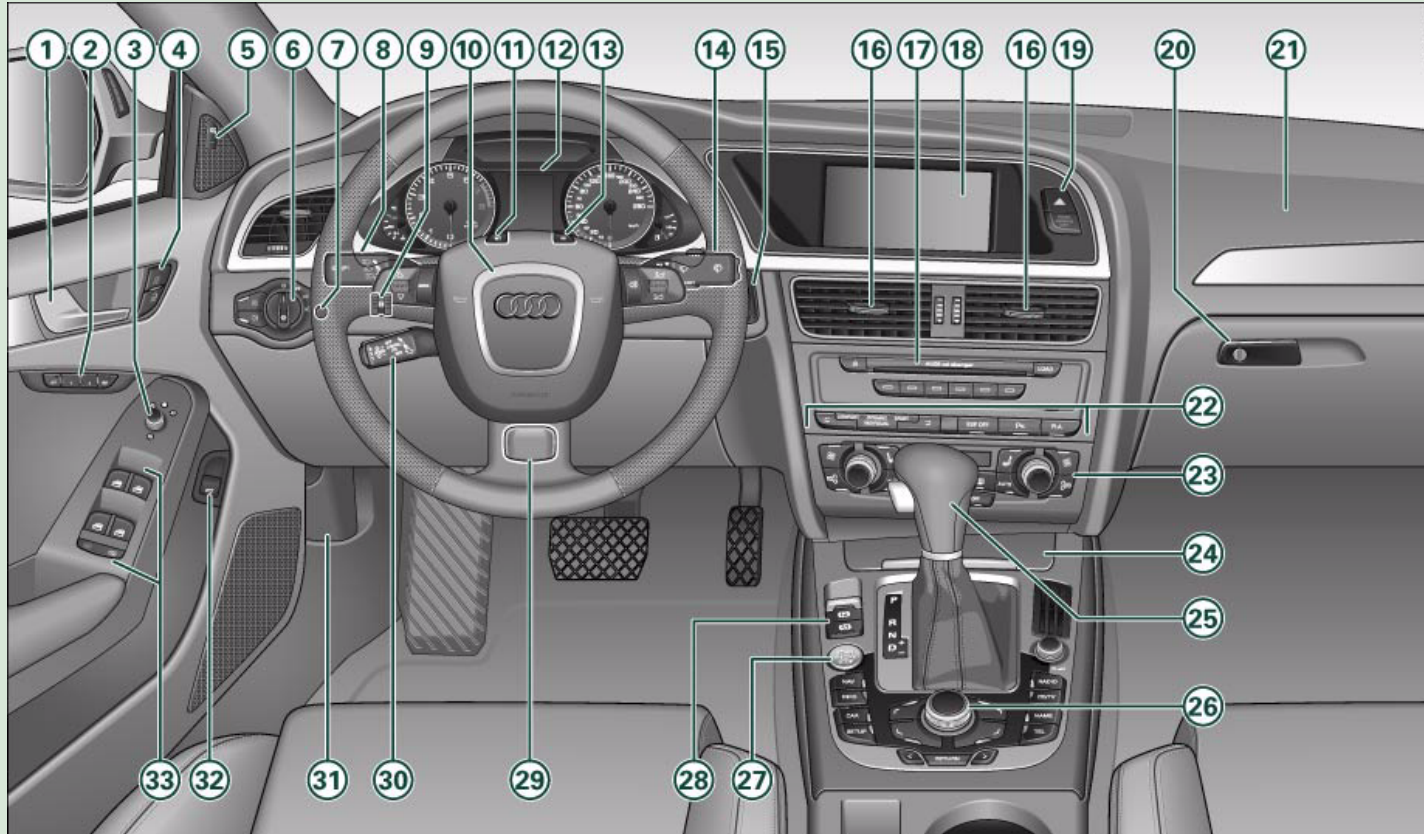

Fig. 1 Some of the items of equipment listed in this section are only fitted on certain models or are optional extras.
- The arrangement of switches and controls on right-hand drive models\* may be slightly different from the layout shown in the illustration ⇒ *page 8*, fig. 1. However, the symbols used to identify the controls are the same. ■